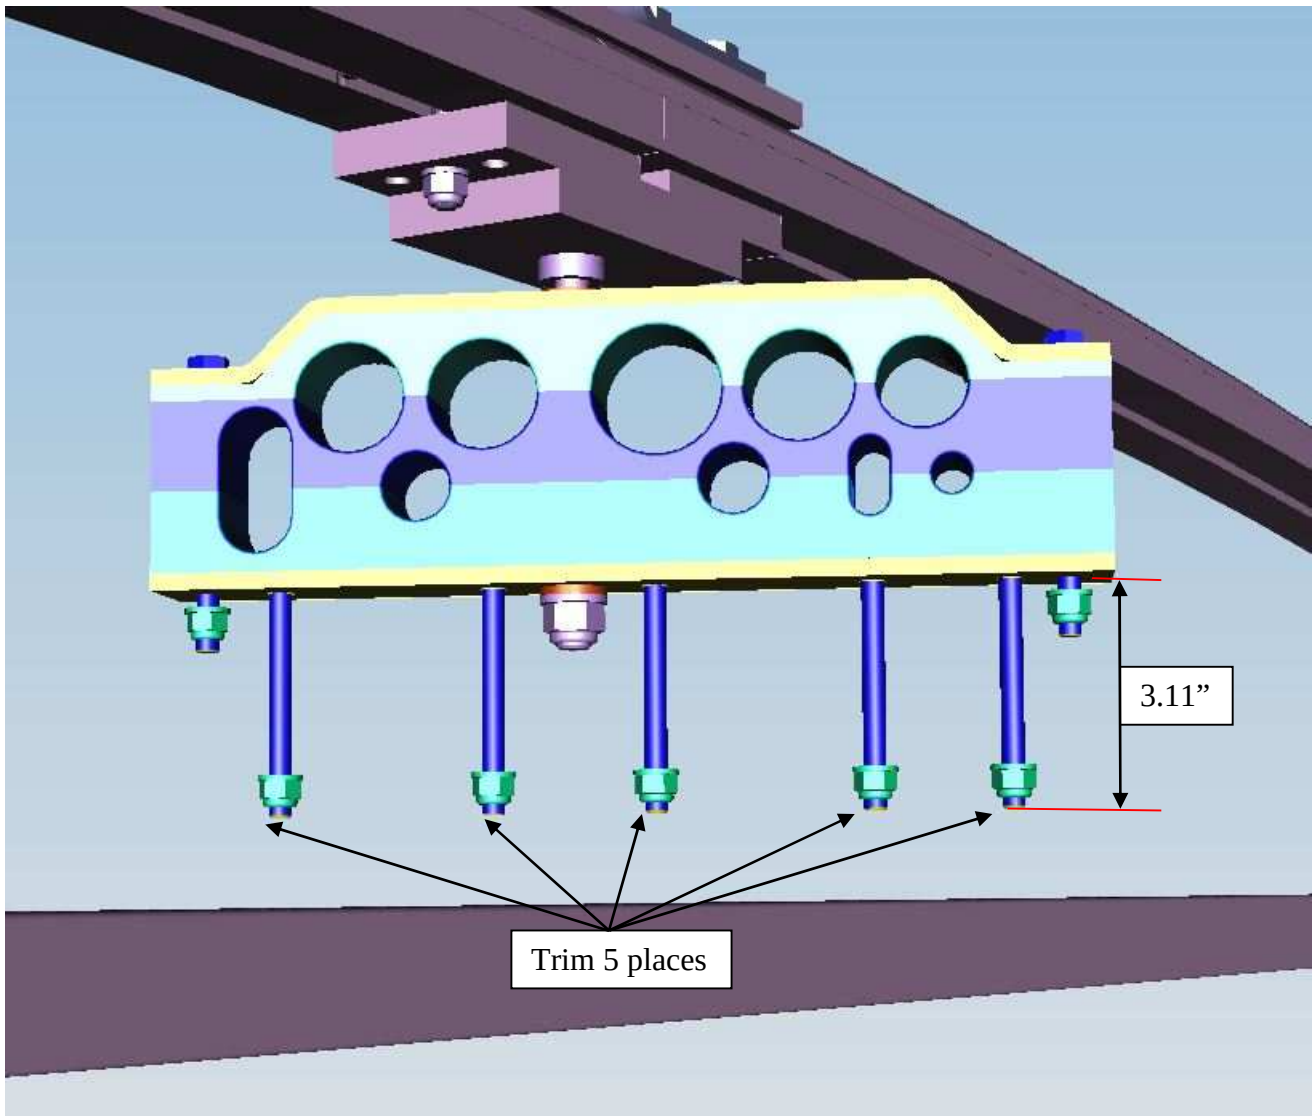

Figure 3: Trim the 5 studs
4. Trim the 5 studs on the spider clamp to the dimension shown in figure 3. Remove any sharp burrs.